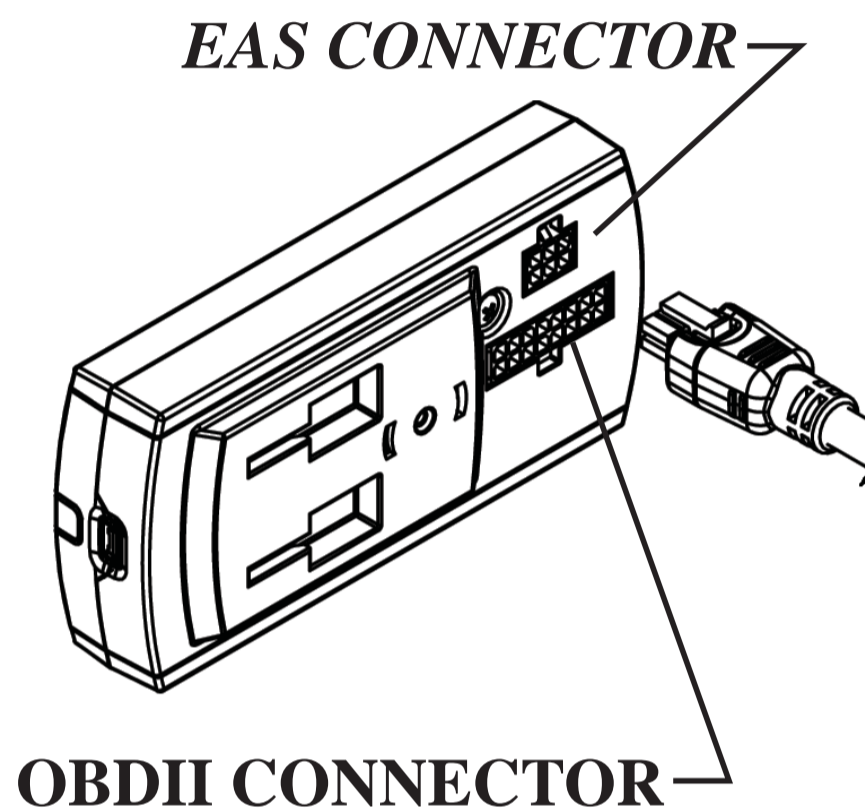

Figure 25
7) If you haven't done so already, plug the 6 pin cable into its mating connector on the back of the CS or CTS. Figure 25